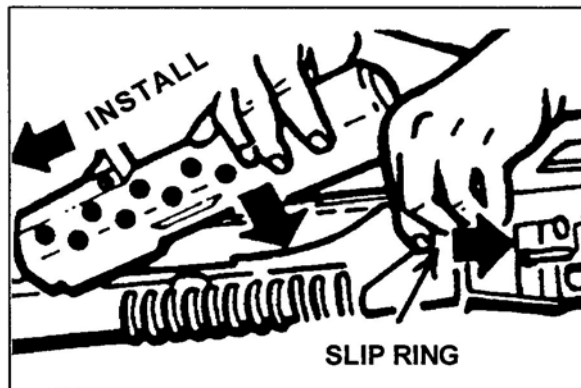

Figure 9. Installing the handguards.
- c. Install the handguard and secure with the slip ring (Figure 9).